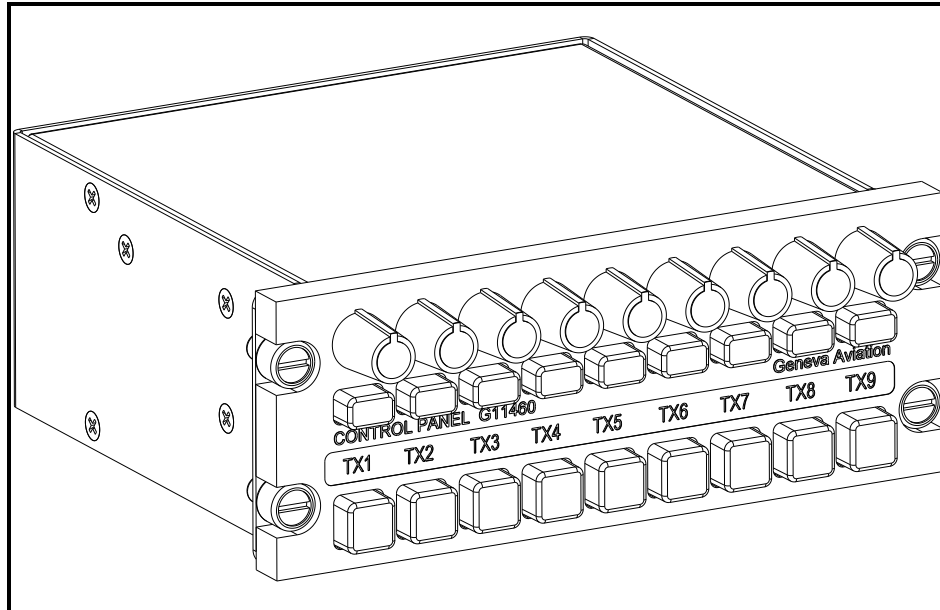
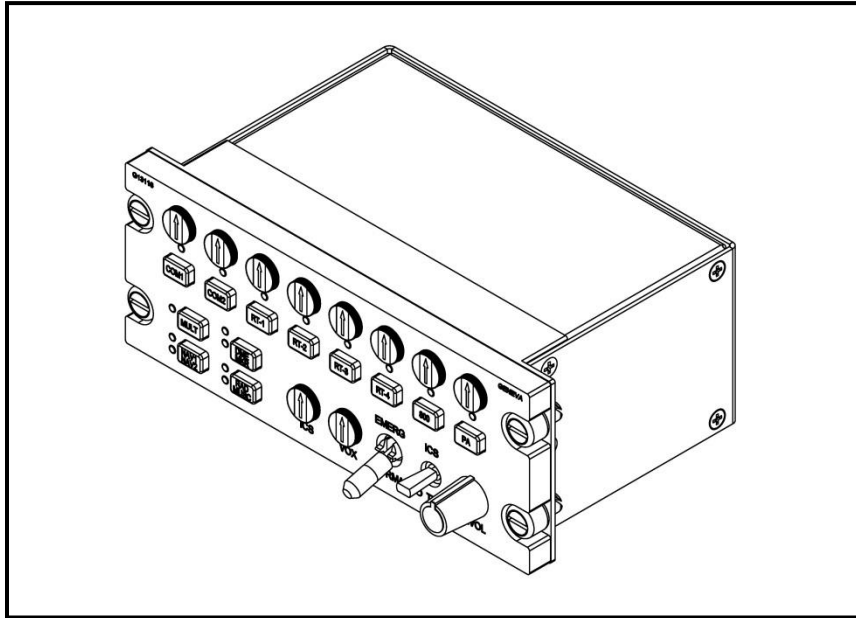

Figure 4: G11460 Control Panel
Figure 10: G13116 Control Panel
- a. There are 3 Digital Router Systems to choose from, the first is P139-HD (D) which uses Router G13000 in a "Dual-board" configuration. The second is P139-HD (S) which uses Router G13000 in a "Single-board" configuration. The third is P139-HD (T) which uses Router G13160 and is a "Three board" router.
- b. A minimum of 2 Audio Control Panels for the pilot and co-pilot. A typical installation will include 3 or more Audio Control panels for the pilot, co-pilot, crew members, and/or passengers. The Control Panels come in 7 different configurations P/Ns G11460, G11462, G11470, G11480, G11490, G13115, and G13116 as shown in Figure 4 through Figure 10. The Audio Control Panels can be used interchangeably, depending on the control functions desired although G13115NS and G13116NS panels must not be used as primary control panels for Pilot or Copilot.